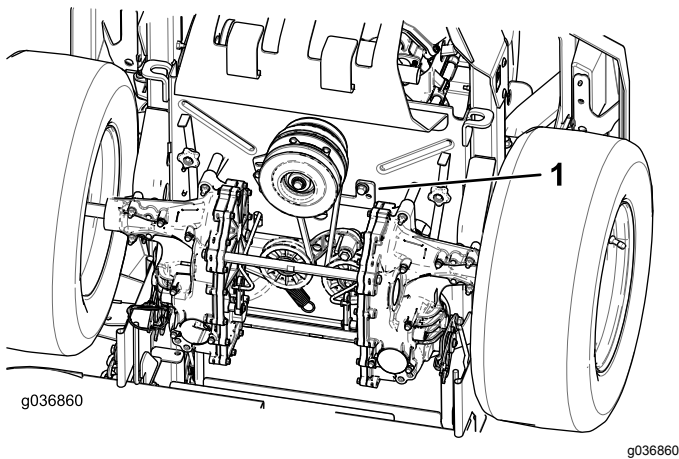

Figure 67
5. Remove the clutch stop (Figure 67).
9. Install the clutch stop (Figure 67).